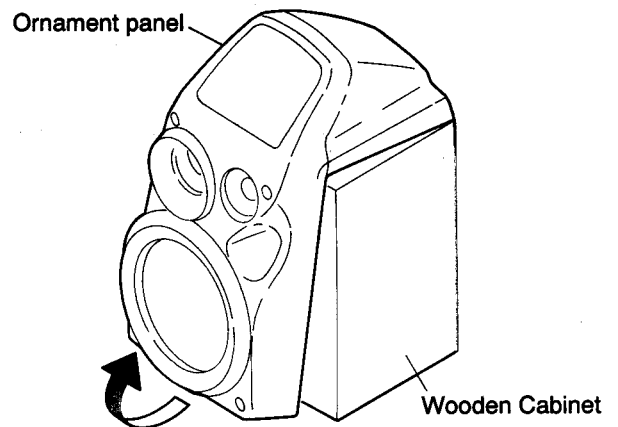

Fig. 5-64
6. Detach the ornament panel from the wooden cabinet from the rear and remove it. (See Fig. 5-64.)